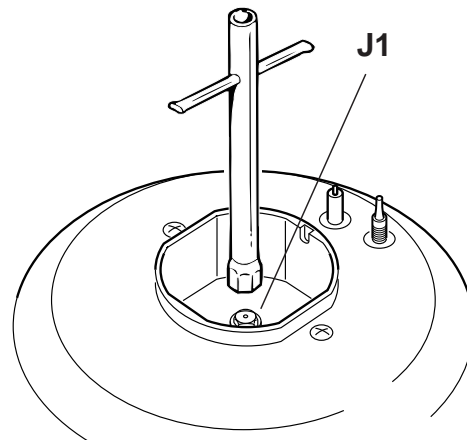

Fig. 2.6a
- Using a wrench substitute the nozzle injectors “J1”, “J2” and “J3” (figs. 2.6a, 2.6b) with those most suitable for the kind of gas for which it is to be used.